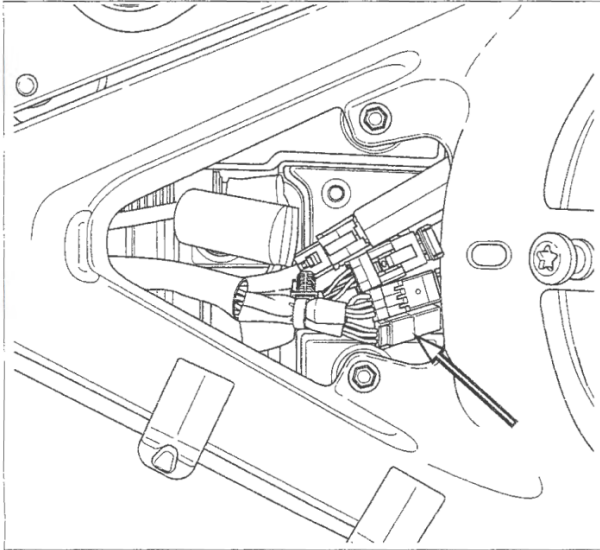

Figure 2. Rear Lighting Harness Connector
1. See Figure 2. Locate and disconnect rear lighting harness connector from the main wiring harness connector.
2. Connect interconnect harness (3) to rear lighting harness connector and main wiring harness.